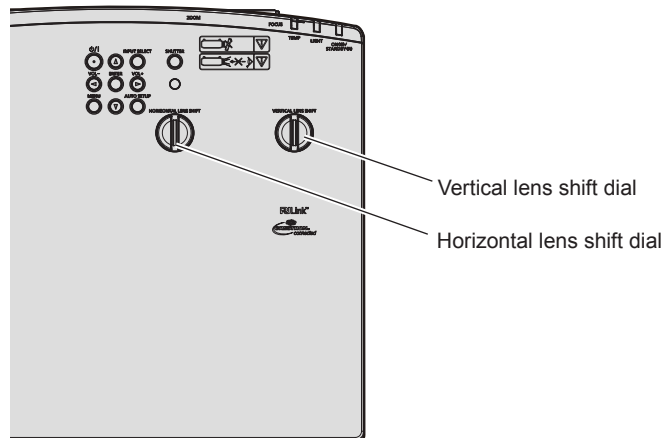

Fig. 2
2) Adjust the lens shift. (Fig. 2)